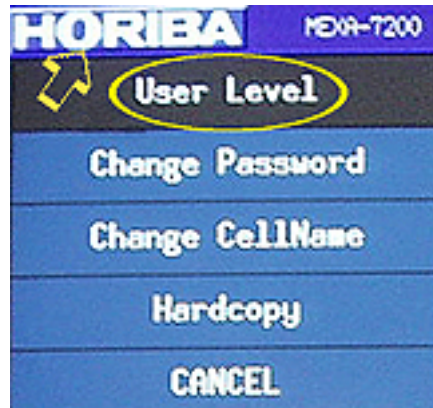

Figure 4
| Figure 4 User Level .....                    | 7  |
- 110 From the Main Control Unit (MCU) “Command Screen,” Click on the Horiba logo button in the title bar. See the arrow in Figure 4.
From the menu items that appear below the button, click on “User Level.” See the circle in Figure 4.